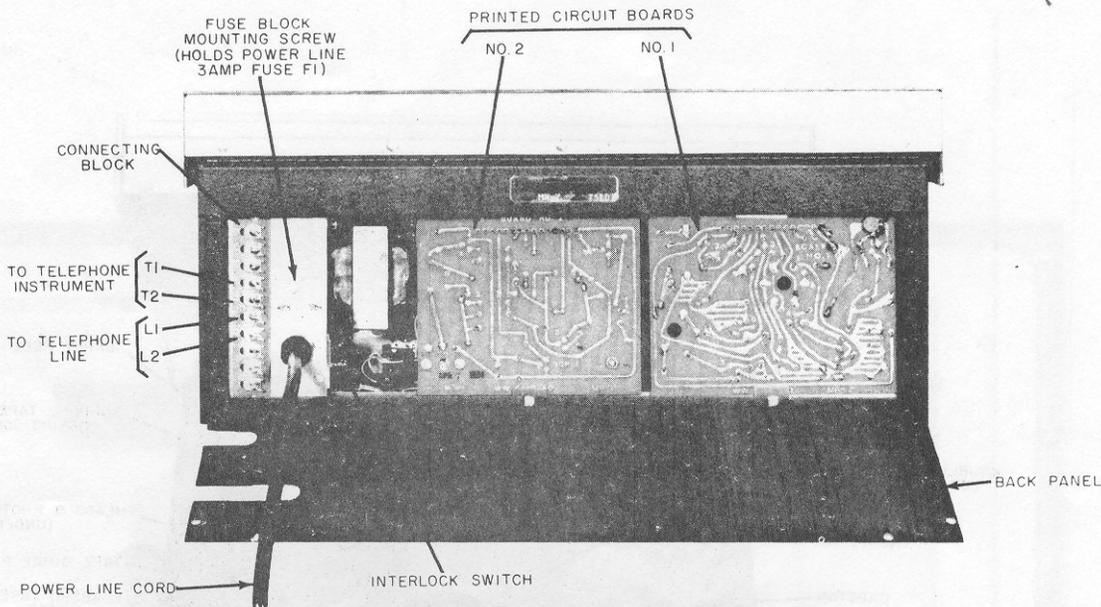

Figure 2. Monitor Recorder, Model MR-2 (Rear View - Back Panel Removed).
- a. Remove the six screws securing the back panel. Remove the panel. This will expose the connecting block (see Figure 2).